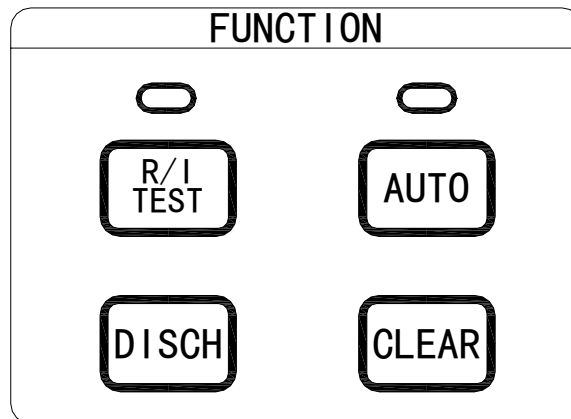

Figure 4-3 Function Keys
- 6) Press **R/I TEST** key to start the measurement procedure as shown in the following figure 4-3. TH2683 outputs the test voltage up to 1000Vdc.